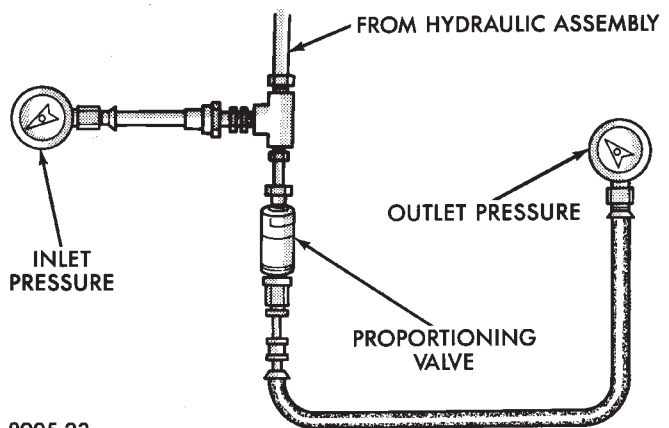

Fig. 6 Tube Connections for ABS
- (1) Install one gauge and (TEE) between the hydraulic assembly and the male end (Inlet) of the valve.
- (2) Install the second gauge at the female end (Outlet) of the valve (Fig. 6).